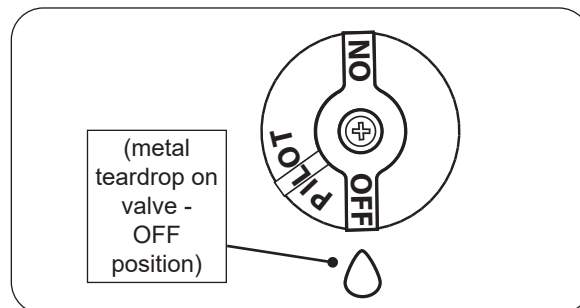

Fig. 29-2 Pilot shut down
2. Locate the valve on the side of the unit. Push in the gas control knob slightly and turn clockwise ↻ to **OFF** (see Fig. 29-2).
Push in the control knob slightly and turn clockwise ↻ to **OFF**. Do not force. See Fig. 29-2.